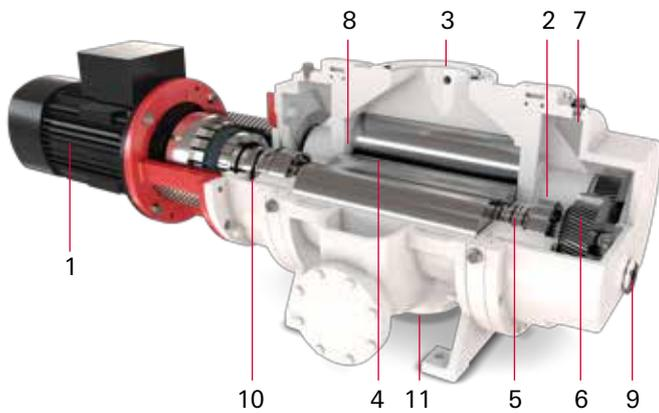

Figure 2: Illustration of a Roots pump design
Figure 2 illustrates the design of a Roots pump. Inside the pump, two Roots pistons (4) rotate in opposite directions. With them, the gas in the housing is conveyed from the intake connection (3) to the pressure connection (11). A motor (1) drives the main piston. The pair of gear wheels (6) in the gear chamber synchronizes the auxiliary piston. Lubricants are used only in the bearing and gear chambers. These chambers are separated from the suction chamber (5) by a labyrinth seal (8).